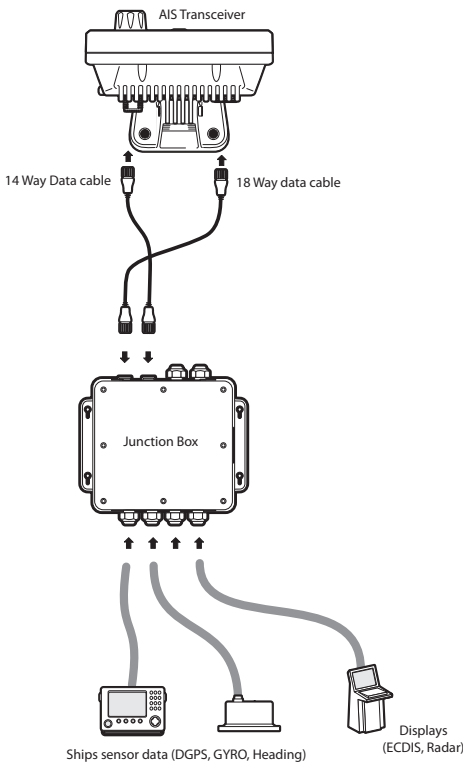

Figure 33 Connecting external equipment
- Figure 33. shows an example of how external equipment could be connected through the junction box accessory.